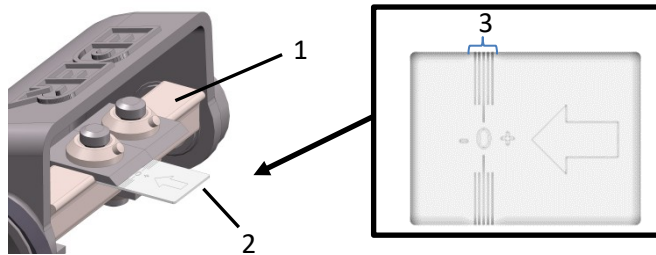

Fig. 11: Knife adjustment
- > Push the setting gauge (2 – Fig. 11) under the knife in the direction of the arrow up to the peeling cylinder (1 – Fig. 11).
Attention: The cutting edge of the knife must be within the marked area (3 – Fig.11).